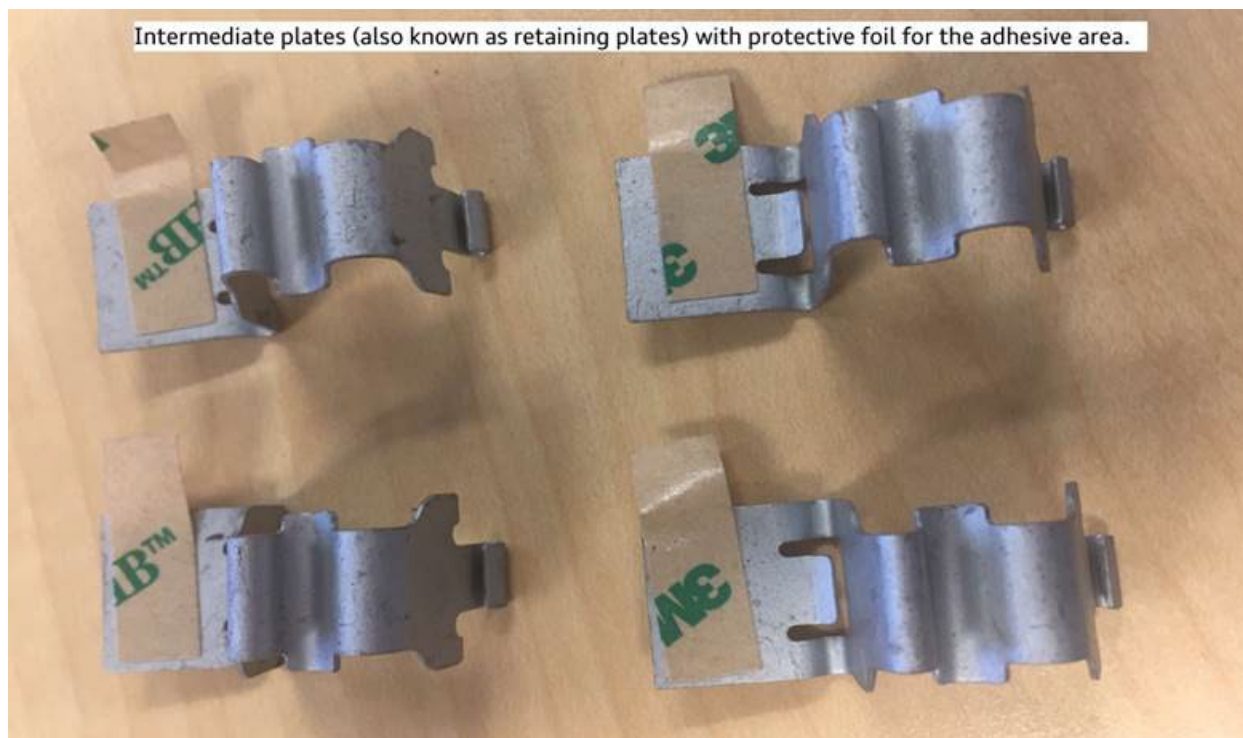
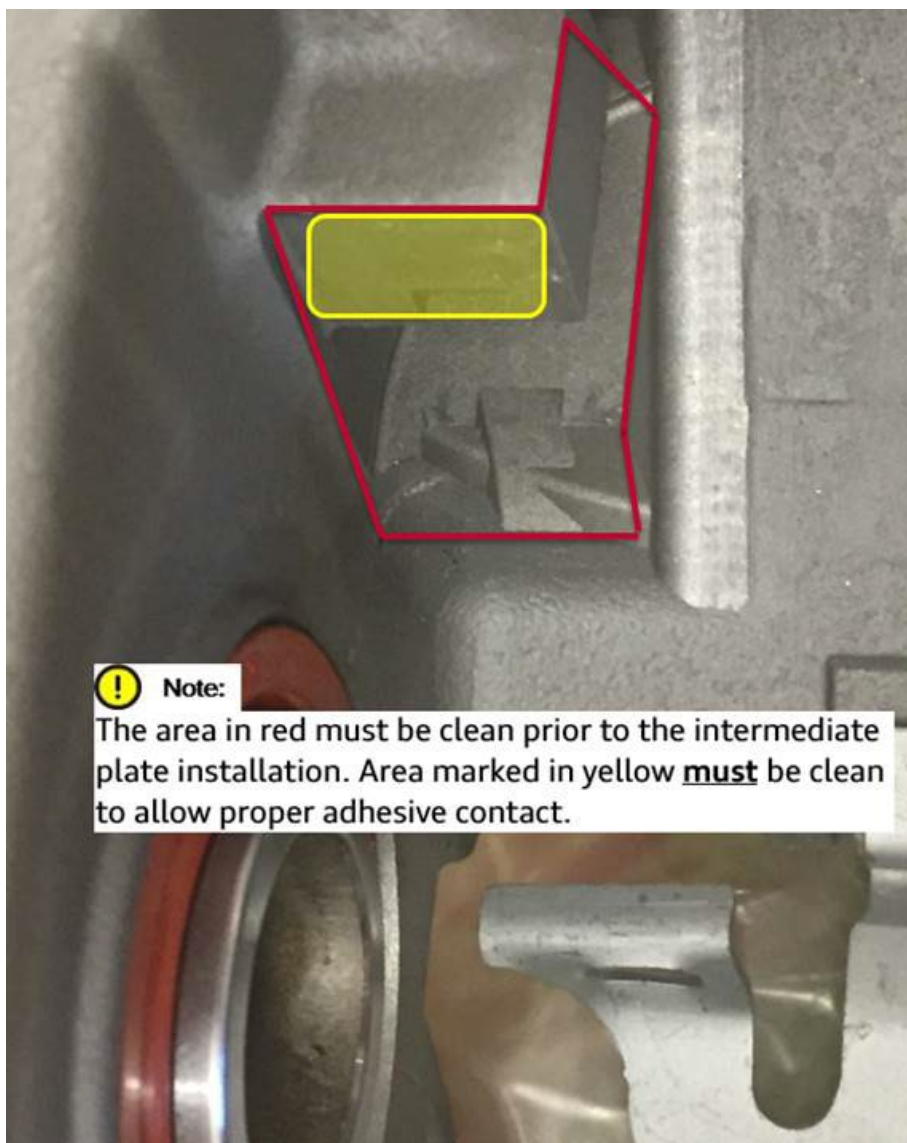

Figure 6. Intermediate plates (also known as retaining plates).
Figure 7. Intermediate plate installation area.
E. Before the installation of the new intermediate plates (Figure 6), clean the caliper area where the intermediate plates will be installed (Figure 7).